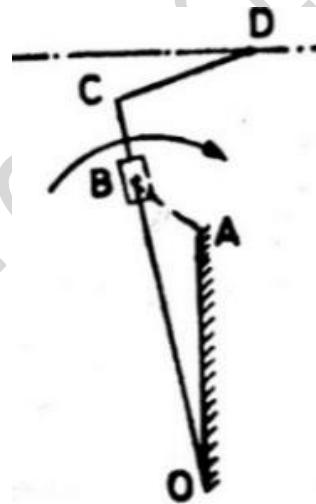

Fig. 4a
- 4 The following data refer to a quick return motion mechanism of crank and slotted lever type as shown in Fig. 4a. The dimensions are; Fixed link  $OA=250$  mm, Crank  $AB=100$  mm, Slotted lever  $OC=400$  mm,  $CD=150$  mm and Angle  $OAB=120^\circ$ . Uniform speed of crank in clockwise direction is 1rps. The vertical distance of line of stroke of ram at D from O is 450 mm. Determine acceleration of ram at D and coriolis acceleration of slider at B.